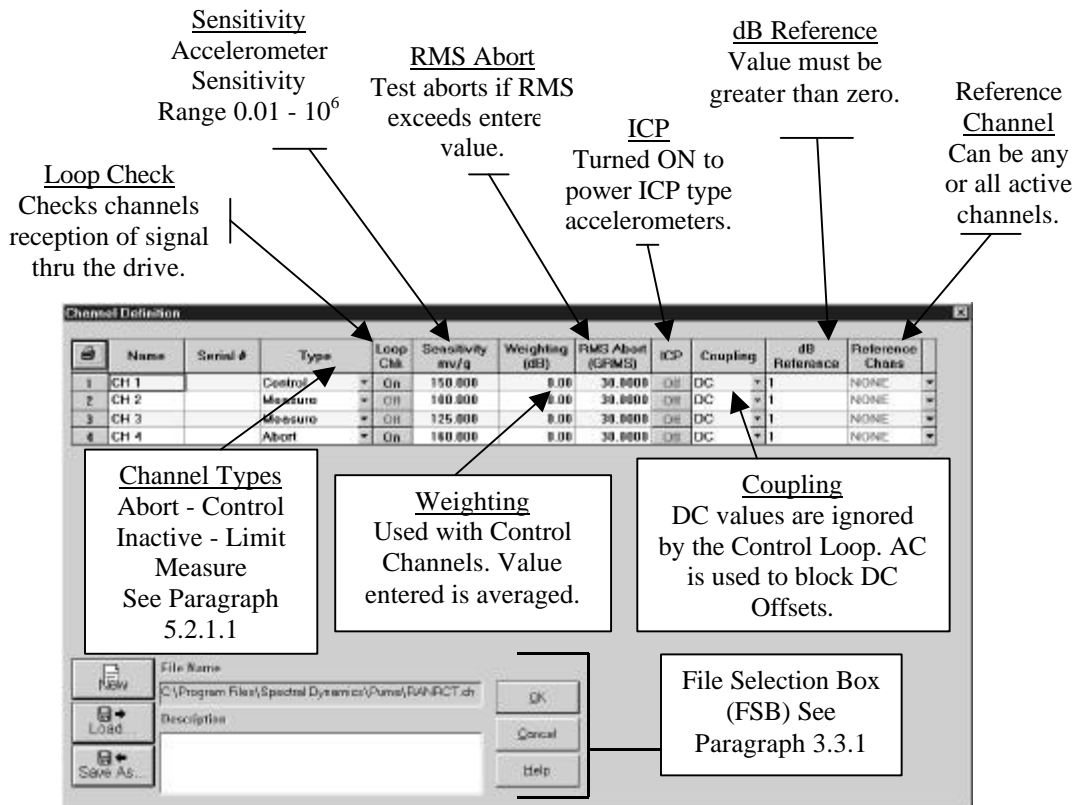
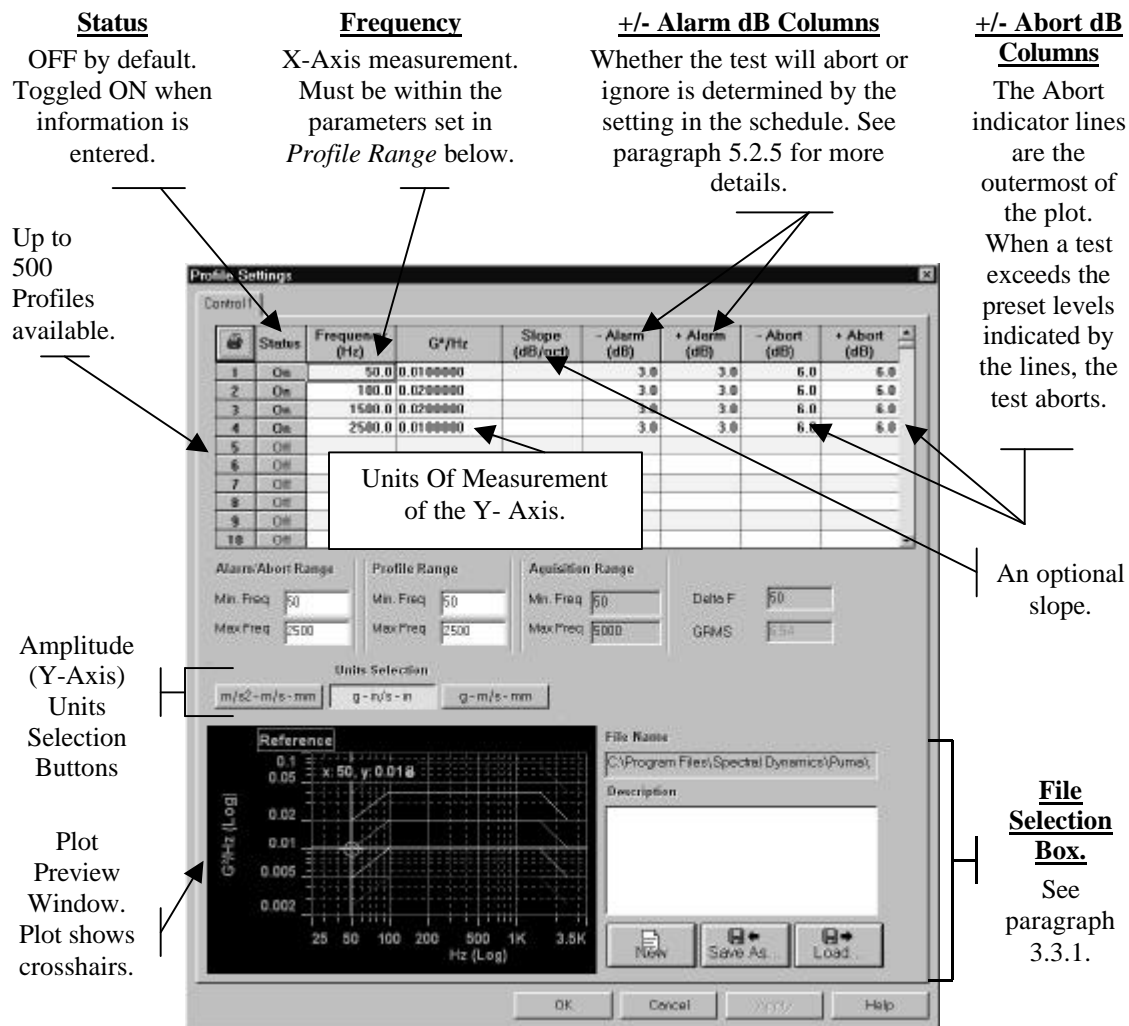
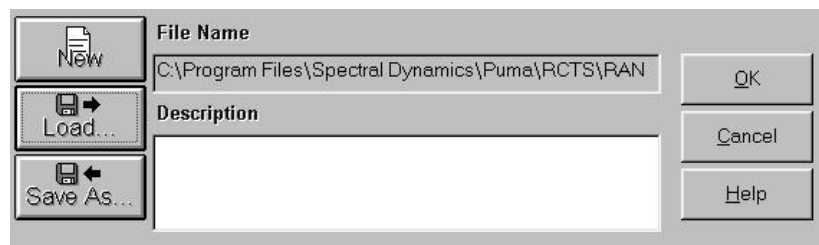

Figure 3-4. Channel Definition Window
Figure 3-5. Profile Settings
Figure 3-11. File Selection Box
1. Click **SETUP** ⇒ **CHANNELS**. The Channel Definition Window appears. See Figure 3-4 and paragraph 5.2.1 for details.
3. Click **SETUP** ⇒ **PROFILES**. The Profile Settings Window appears. See Figure 3-5. Refer to paragraph 5.2.4 for Profile Definition information.
Throughout PUMA there is a need to save the parameters of tests, load those same parameters for another test or just start on something brand new. The File Selection Box (FSB) (Figure 3-11) is shown in the lower left hand corner of Figures 3-4 and 3-6 and the lower right hand corner of Figure 3-5. It is a common Windows tool and is used throughout the PUMA platform though sometimes the format is somewhat different. The components of the FSB are outlined below for the primary setup areas of Channel Definition, Profile Settings and Schedule Setup.